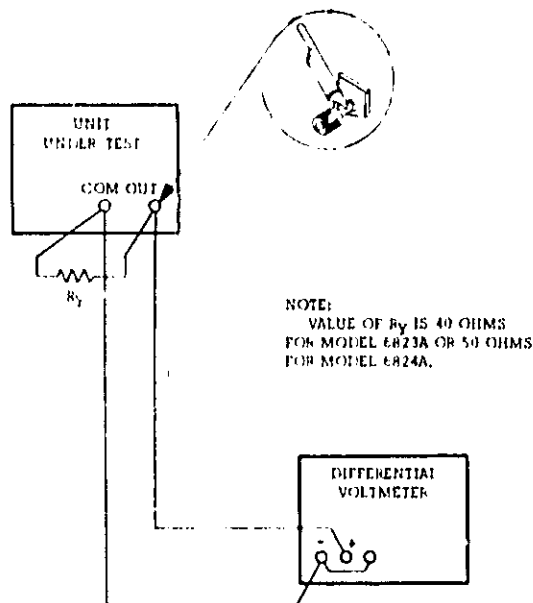

Figure 5-4. Load Regulation, Test Setup
- a. Connect test setup as shown in Figure 5-4.
- Connect test setup shown in Figure 5-4.